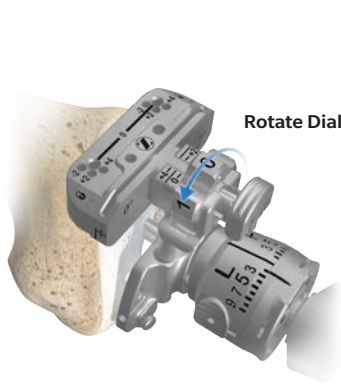

Figure 10
**ⓘ Technique Tip:** If unsure of the adjustable resection tower depth setting, rotate the dial clockwise until a “click” is felt. This occurs when the dial moves from the ‘4’ setting to the ‘0’ setting. The bold ‘0’ will be visible on the dial and the line will be aligned with the ‘0’ mark along the shaft (Figure 10).